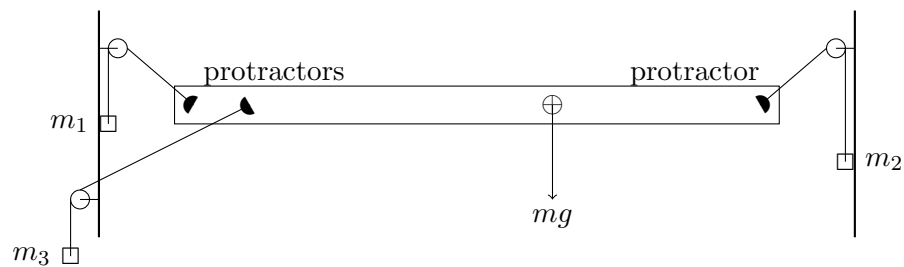

Figure 4: Cenco-Moe apparatus.
1. Set up a condition of stable equilibrium, with the Cenco-Moe apparatus level, as shown in figure 4. Your apparatus has four protractors rather than the three illustrated here. The 4th protractor can be used to aid in determining if the apparatus is level. It is not at the location of the center of mass, and the center of mass is not necessarily at the center of the apparatus.